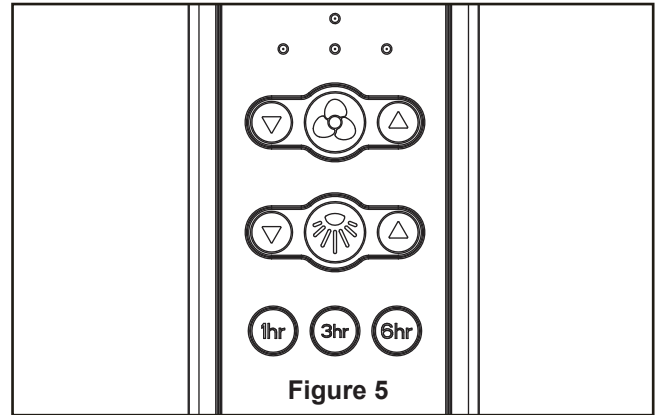

Figure 5
5. Remote functions: (Figure 5)